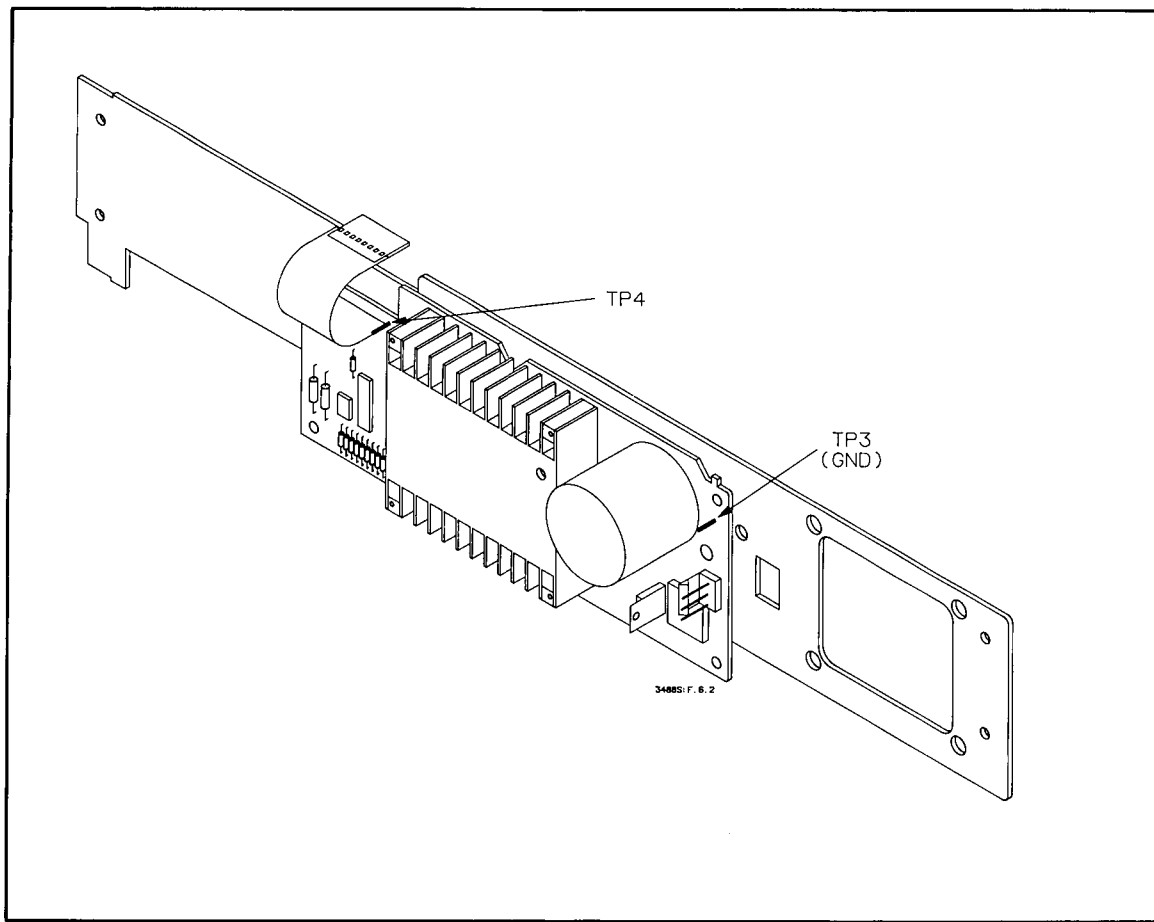

Figure 6-2 TP3 (GND) and TP4 Test Points
The power supply printed circuit board is located behind the keyboard. Connect the voltmeter common lead to TP3 (GND) on the power supply board (shown in Figure 6-2). Connect the voltmeter positive test lead to TP4 on the power supply board (shown in Figure 6-2).
2. Check the +5 Vdc output of the power supply. It will be necessary to remove the 3488A top cover to check the power supply. A cover removal procedure is given in Chapter 5. Figure 6-2 shows the ground and TP4 test points. Connect the positive lead of the voltmeter to TP4 and the negative lead to ground (TP3). The voltmeter should indicate +5.1 Vdc, ± 0.10 Vdc. If the voltage indicated is within the specification, check the +5 Vdc output (at TP4) with an oscilloscope for noise on the supply. Noise should be less than 65 mV peak-to-peak.